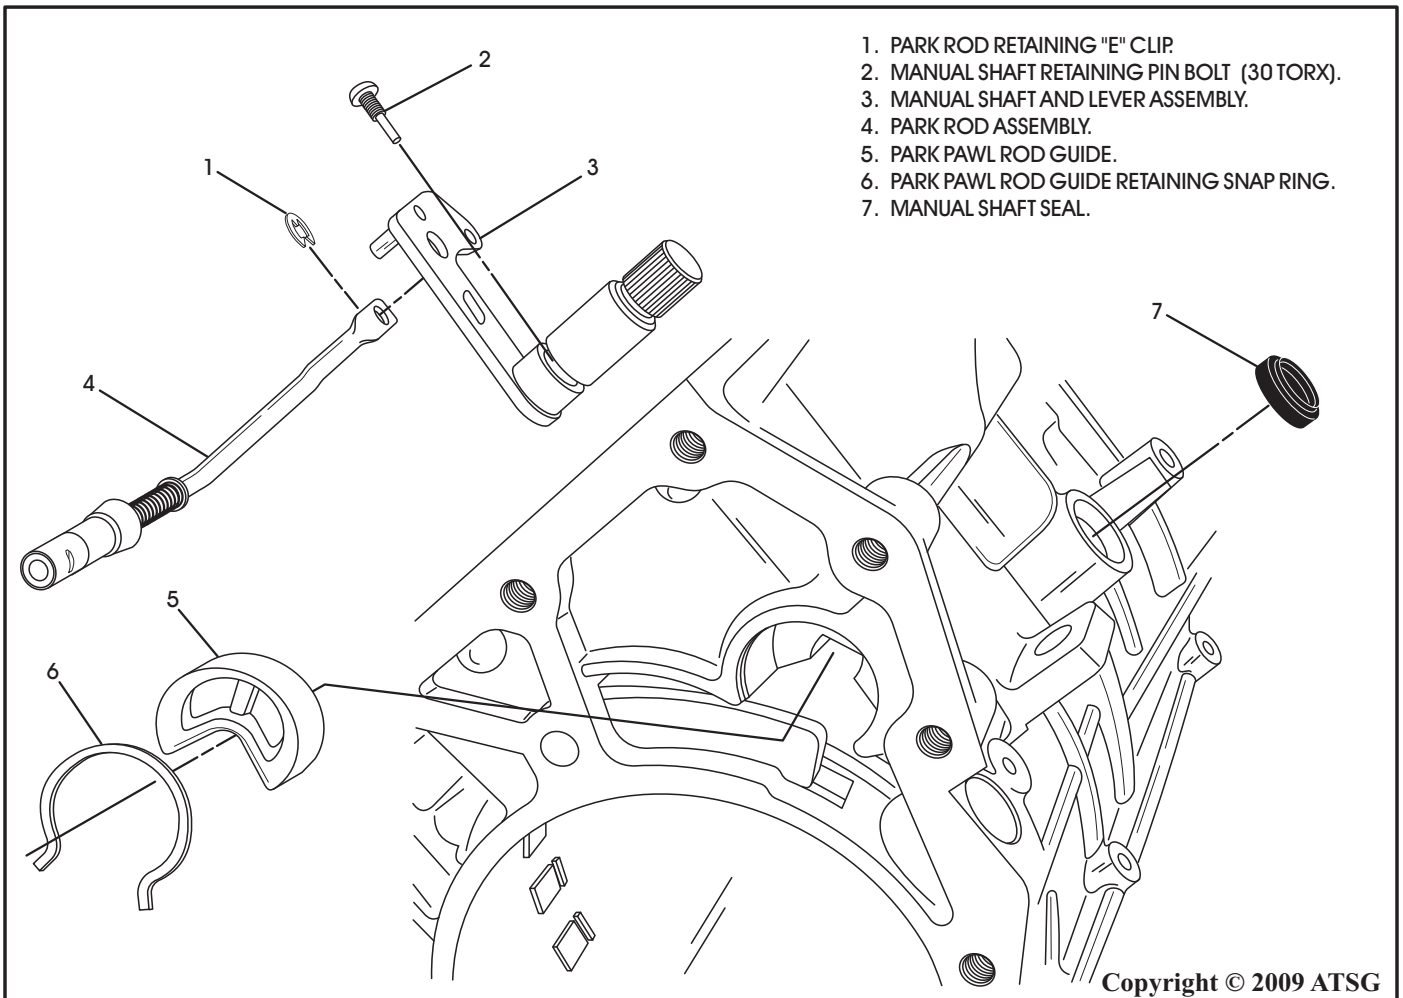

Figure 47
55. Remove and discard the manual shaft seal as shown in Figure 47.
56. Remove the park rod guide retaining snap ring from the case as shown in Figure 47.
57. Remove the park rod guide from the case, as shown in Figure 47.
2. Install the park rod guide into the transmission case, as shown in Figure 47.
4. Install a new manual shaft seal into the case using the proper size seal driver and insure that it is fully seated in bore (See Figure 47).
6. Install the manual shaft and lever assembly through the inside of case and into the manual shaft case bore as shown in Figure 47.